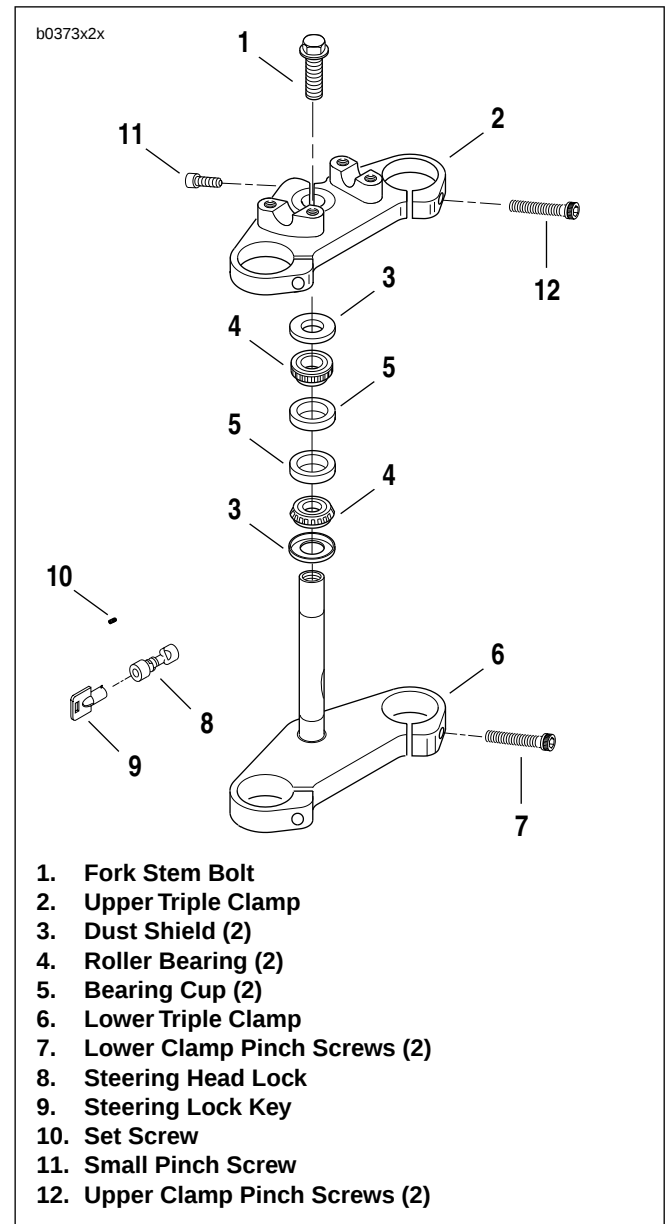

Figure 2-56. Fork Stem
3. See Figure 2-56. Remove all upper triple clamp screws (7, 11), fork stem bolt (1) and upper triple clamp (2).
4. Remove upper dust shield (3) and roller bearing (4).
- a. Remove two lower triple clamp screws (7). Pull the lower triple clamp (6) downward.
- d. Remove lower dust shield (3).
6. If replacement of bearing cups (5) is necessary, drive cups from steering head using STEERING HEAD BEARING RACE REMOVER (Part No. HD-39301A) and UNIVERSAL DRIVER HANDLE (Part No HD-33416).
1. See Figure 2-56. Clean the dust shields (3), bearing cups (5), fork stem and lower triple clamp (6) and frame with solvent.
2. Carefully inspect bearing races and assemblies for pitting, scoring, wear and other damage. Replace damaged bearings (4) as a set (3, 4 and 5).
3. Check the fork stem and lower triple clamp (6) for damage. Replace if necessary.
1. See Figure 2-56. If removed, install **new** bearing cups (5) into frame steering head using STEERING HEAD BEARING RACE INSTALLER (Part No. HD-39302).
2. Liberally coat the bearing cones (4) with grease using WHEEL BEARING PACKER TOOL (Part No. HD-33067). Work the grease into the rollers.
- a. Place lower bearing dust shield (3) over fork stem.
- c. Press bearing (4) with small end up onto fork stem and lower triple clamp (6). Use the pipe as a press-on tool.
4. Insert lower triple clamp (6) through the steering head. Install the upper bearing (4) with small end down and dust shield (3) onto fork stem.
5. Apply LOCTITE ANTI-SEIZE to fork stem bolt (1). Loosely install upper triple clamp (2) using fork stem bolt.